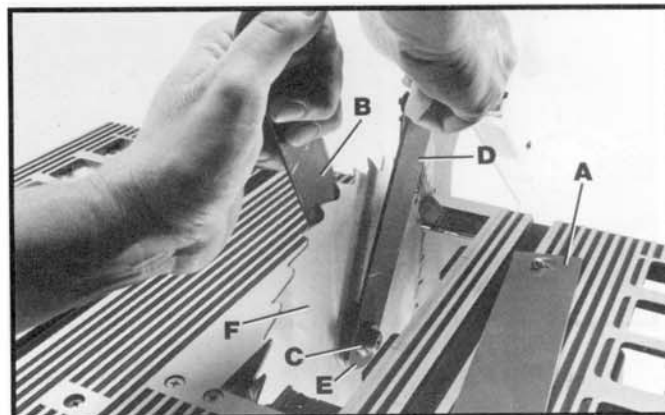

Fig. 30
2. Raise the saw blade to its maximum height and remove the table insert (A) Fig. 30.
3. Using the open end wrench (B) Fig. 30, place open end of wrench on flats on inside blade flange to keep the saw arbor from rotating and remove arbor nut (C) with wrench (D). Turn nut (C) counterclockwise to remove. Remove outside blade flange (E) and saw blade (F).
4. Assemble new blade, making certain teeth of blade are pointing down at the front of the saw table and assemble the outside blade flange (E) Fig. 30, and arbor nut (C). Tighten nut (C) with wrench (D) by turning nut clockwise while holding arbor steady with other wrench (B).